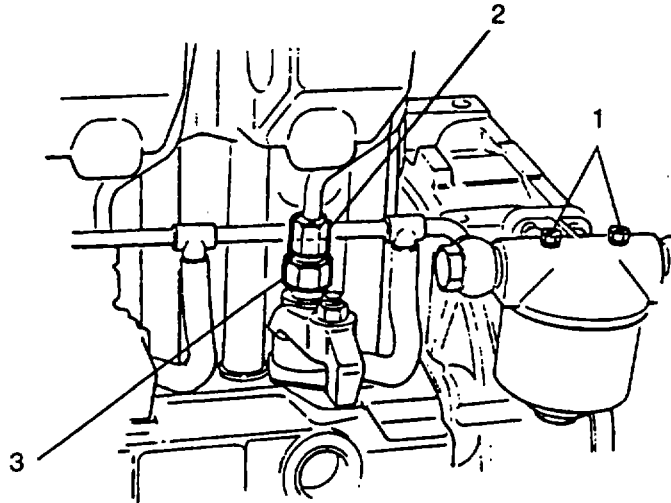

FIGURE 3-5. Priming Fuel System
- a. Loosen two screws (1, FIGURE 3-5) on fuel filter to allow air to escape. Tighten screws.
- b. Loosen injector fuel pipe (2) at fuel injection pumps.
- c. Loosen delivery valve holder (3) on fuel injection pumps up to a quarter of a turn until no air bubbles are expelled.
- d. Tighten delivery valve holder (3) using 17 mm crowsfoot wrench to 35 ft-lbs (47.5 Nm).
- e. Tighten injector pipe nut (2) to 21 ft-lbs (28.5 Nm).